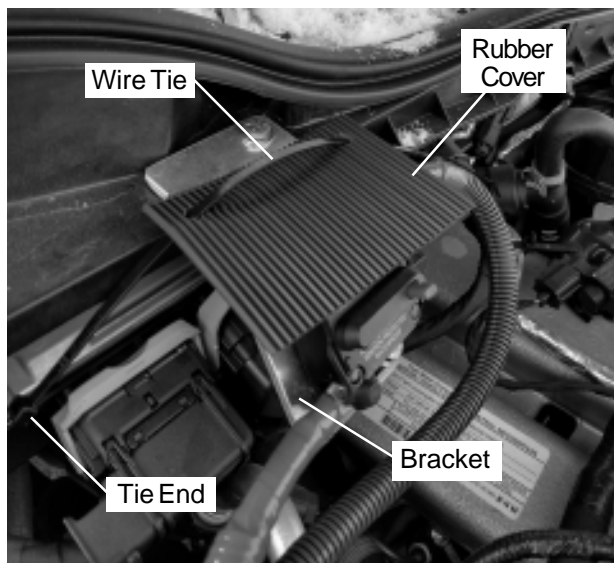

Figure 4 — Breaker Bracket Cover Installation
4. If the bracket is 1 inch or less, install the insulated rubber cover included with the MAB to protect the circuit breaker cable mounting post from contacting the hood until the bracket is changed. Position the insulated cover on the top of the bracket with the holes in the cover next to the firewall (refer to Figure 4).